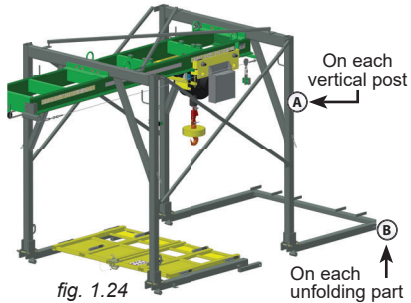

fig. 1.24
- 4- **Holding the hoist structure**, unhook the chains to unfold the bottom half of the front and back support frames of the structure (see fig. 1.24 and fig. 1.25).